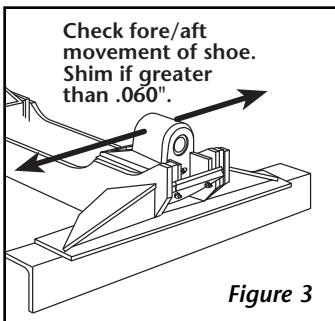

Figure 3
1. Measure the fore and aft movement of the shoe sub-assembly in the Kompensator bracket (see **Figure 3**).
Add shims (**ITEM 11**) and/or new bearing plates (**ITEM 12** or **ITEM 13**) when this movement exceeds 0.060" (1/16"). See **Figures 3** through **6**.
- a. Remove shoes and disassemble Kompensator. See **Figure 3**.